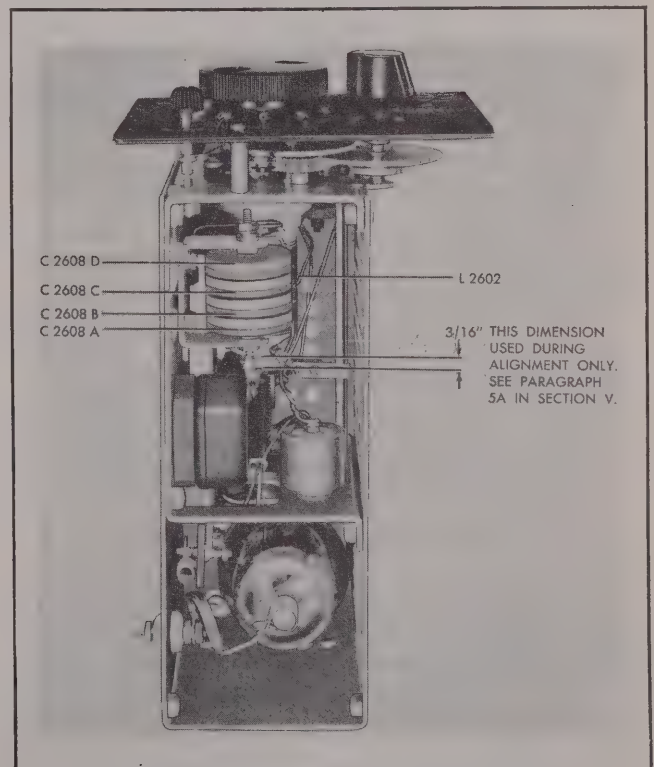

Figure 5-7. Low Frequency Oscillator
(5) Remove cover on top of L.F.O. unit by taking out screws around rim.
(6) Turn control "G" counterclockwise until revolution counter dial reads zero and control "G" will not turn any further. Operate corrector knob so that index line is directly above the center of control "G" even though it no longer points to zero line on the control.
(7) Measure the length of tuning slug that extends out of the rear end of inductor L2602. This dimension should be $3/16"$ (see dimension shown in figure 5-7). If the slug extends out by this amount, no change in slug position is required and the following steps No. 8, 9, and 10 may be omitted—proceed with step No. 11. If the slug is incorrectly set, proceed with step No. 8.
(9) Hold gear train in dial drive mechanism, so that it cannot rotate. Then rotate control "G" until tuning slug in inductor L2602 extends $3/16"$ out of the rear of the coil form (see dimensions shown in figure 5-7).
(10) Retighten Bristo setscrews in small spur gear.
(11) Loosen two setscrews in control knob "G" and holding the gear train stationary, set knob so that zero mark lines up with the index line. Then retighten setscrews in the knob.
(12) Set control "G" to read exactly 1964.0 (this is dial setting shown in calibration table 6-9 for frequency of 600 Kc). Approach setting in a clockwise direction.
(13) Replace shield cover on top of low frequency oscillator unit. Operate power level switch to CALIBRATE position.
(14) Connect headphones to sidetone output jack.
(15) While listening to sidetone output, adjust trimmer condenser C2608A (see fig. 5-7 and note that trimmer can be reached through slot in shield cover of LFO unit). Until zero beat is obtained between the output of the calibration oscillator in the CFI unit. These trimmer condensers are adjusted by changing the position of the small "pronged" metal lip that projects out from the side of the rounded edge of the capacitor.
(16) The alignment of band 3 is now complete. Rotate control "F" to band 2 (285 to 415 Kc).
(17) Set control "G" to read exactly 1055.0 (this is dial setting shown in calibration table 6-9 for frequency 350 Kc). Approach setting in a clockwise direction.
(18) While listening to sidetone output (in headphones), adjust capacitor C2608B (see fig. 5-7) until "zero beat" is obtained between output of low frequency oscillator and calibration oscillator in CFI unit.
(19) The alignment of band 2 is now complete. Rotate control "F" to band 1 (200 to 285 Kc).
(20) Set control "G" to read exactly 1216.8 (this is dial setting shown in calibration table 6-9 for frequency of 250 Kc). Approach setting in a clockwise direction.
(21) Listen to sidetone output and obtain "zero beat" by adjusting either or both trimmer capacitors C2608C and C2608D (see fig. 5-7).
(22) Alignment of band 1 is now complete. Check excitation over entire range on all three bands by rotating control "G" through 20 revolutions and observing P.A. GRID reading. The excitation should be nearly uniform over entire frequency range and P.A. GRID meter should read between 90 and 120.